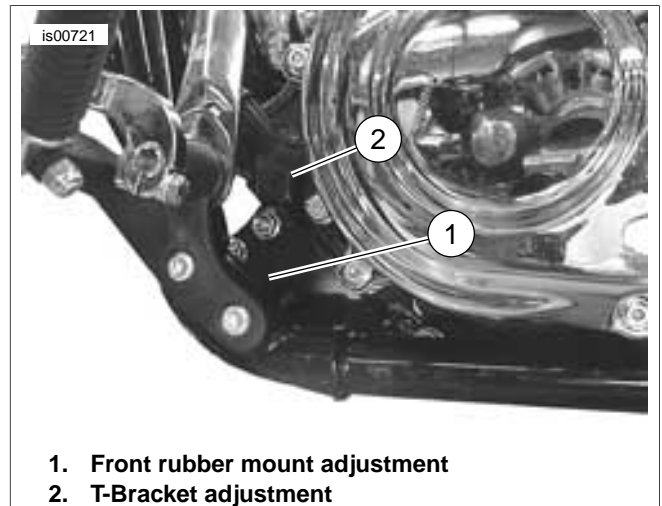

Figure 9. Front Leverage Points (Left Side Shown, Right Side Similar)
4. See Figure 9. Using a suitable tool wrapped in a clean, soft cloth, between the front mount and frame (1), move the rear wheel to the left or right, as necessary, to provide clearance for the gauge.
7. See Figure 9. Use a suitable tool between the frame and T-bracket (2). Move the rear wheel to the left or right, as necessary, to provide clearance for the gauge.